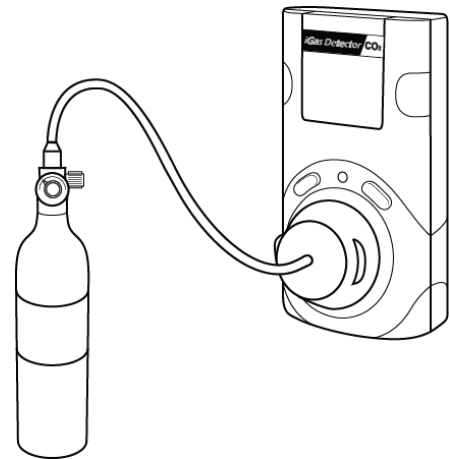

Figure 8-1
1. Assemble the calibration equipment with zero gas cylinder. See Figure 8-1
4. Press and hold the power button for three (3) seconds to start the zero calibration. Once the countdown timer has started, open the valve on the regulator to start the flow of gas.
5. After 90 seconds, when the zero calibration is successful, success message (V) appears. If the zero calibration fails, FAIL message (X) appears.
1. Assemble the calibration equipment with span gas cylinder. See Figure 8-1
4. Press and hold the power button for three (3) seconds to start the span calibration. Once the countdown timer has started, open the valve on the regulator to start the flow of gas.
5. After 90 seconds, when the span calibration is successful, success message (V) appears.